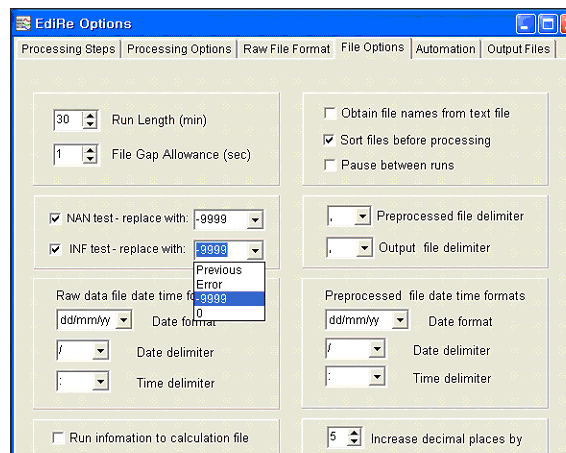

Figure 24: A replacement value of -9999 has been selected for NAN and INF.
2. Check the boxes next to NAN test and INF test to activate this feature, then select -9999 as replacement values for NAN and INF as shown in Figure 24.